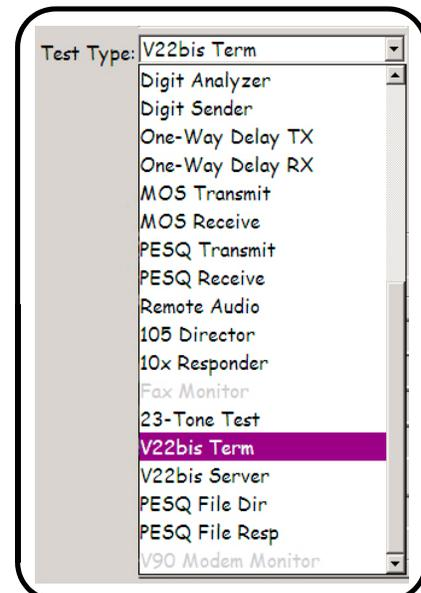

Figure 3 — Select V22bis Term
4. In the resulting screen, locate the "Test Type" window. Click on its associated drop-down arrow and select "V22bis Term", as shown in *Figure 3*, at right.